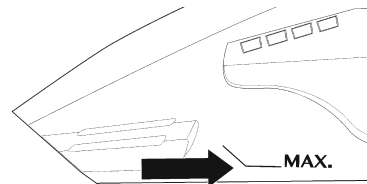

Fig. 6
- When vacuuming up liquids, make sure that the specified MAX filling level (Fig. 6) is not exceeded. This level must always be observed whenever the appliance is in a vertical position with the suction opening (9) pointing downwards.